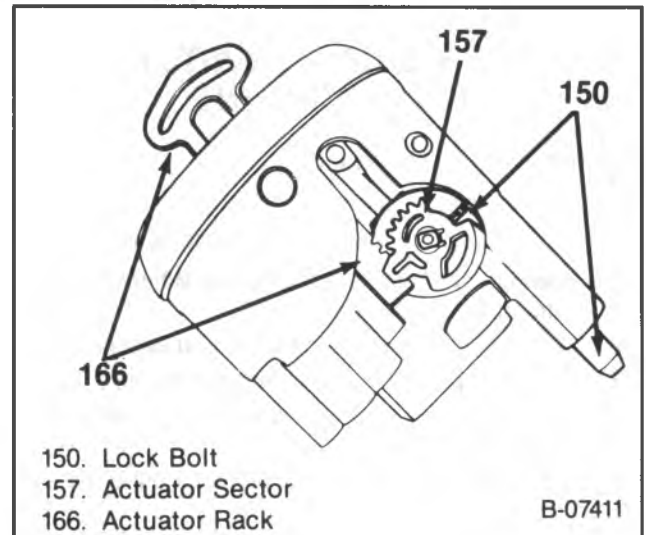

Figure 37 — Lock Bolt and Rack Assemblies Installation
4. Sector drive shaft (154) into the housing (159).
- Lightly tap the sector (157) onto the shaft (154) far enough to install the snap ring.
6. Lock bolt. Engage the bolt with the sector cam (157) surface.
7. Rack (166) and spring (165). The block tooth on the rack should engage the block tooth on the sector (figure 37).
8. Tilt release lever (163).
9. Lock bolt spring (151) and retaining screw (148).